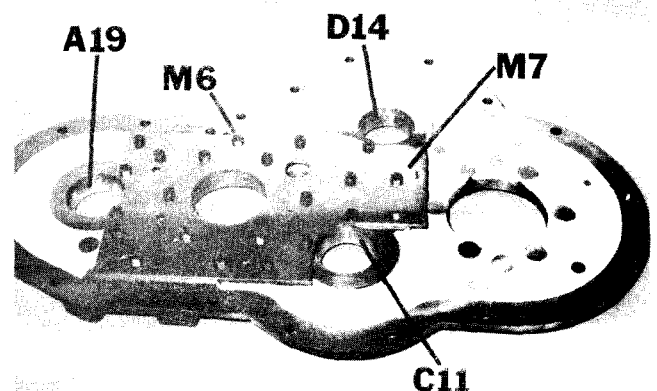

Figure 9
17. Remove 24 capscrews (M-6) from plate (M-7) on rear of main cover (M-1) (Figure 9).